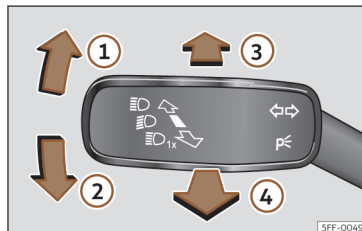

Fig. 107 Turn signal and main beam lever (depending on the version).
- From the base position, press the turn signal and main beam headlights lever forwards >>> **Fig. 107 ③**.
- **EITHER:** if main beam assist is on, pull the turn signal light and main beam headlights lever back >>> **Fig. 107 ④**.